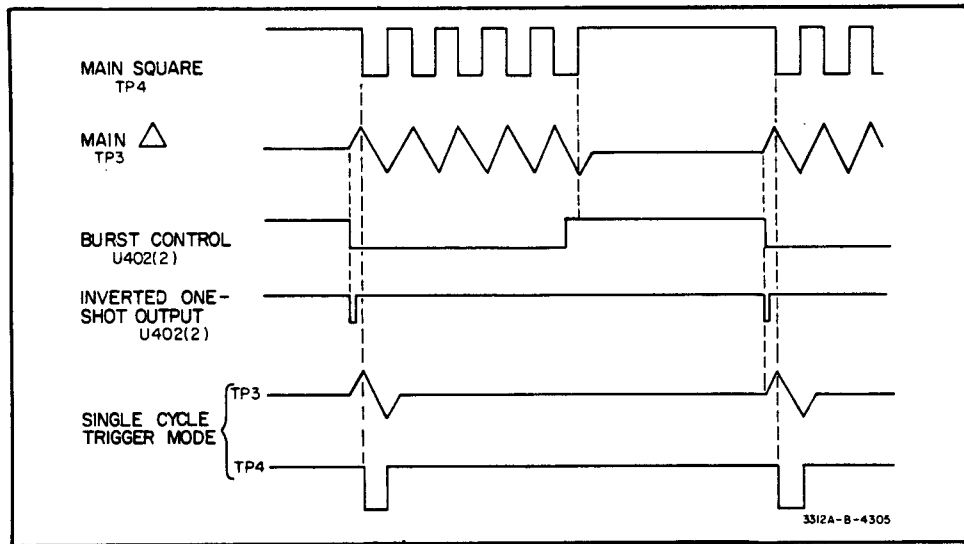

Figure 4-9. Burst Time Relation Waveforms.
**4-43. Multiple Cycle Burst Mode (Figure 7-3).** The main generator is gated off when the burst logic sees a positive square wave transition *after* the burst input to U402 pin 2 goes high. If the main square wave is already high, the main generator will not be gated off until the main square wave first goes low then returns high. The waveforms in Figure 4-9 should serve to clarify the operation of the burst logic.